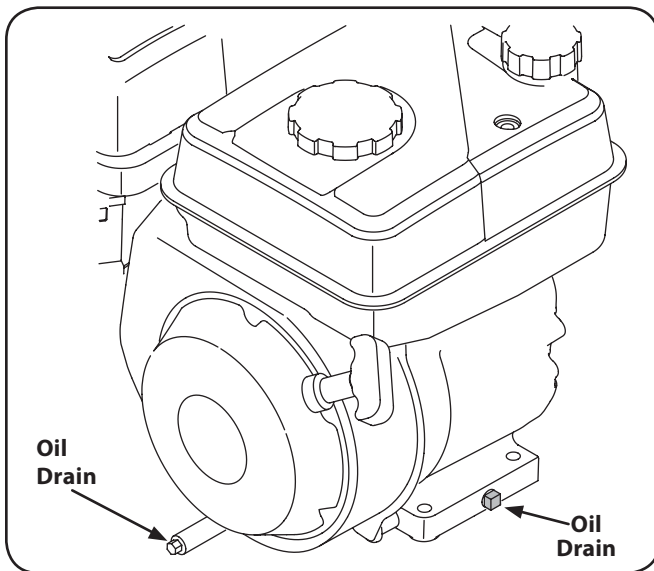

Figure 6-2
6. Remove the Oil drain plug. See Fig. 6-2.
NOTE: Depending on which engine model you have, the oil plug may be positioned differently. These positions include on the front and/or rear side of the block, or as an extended tube. Examples are shown in Fig. 6-2.